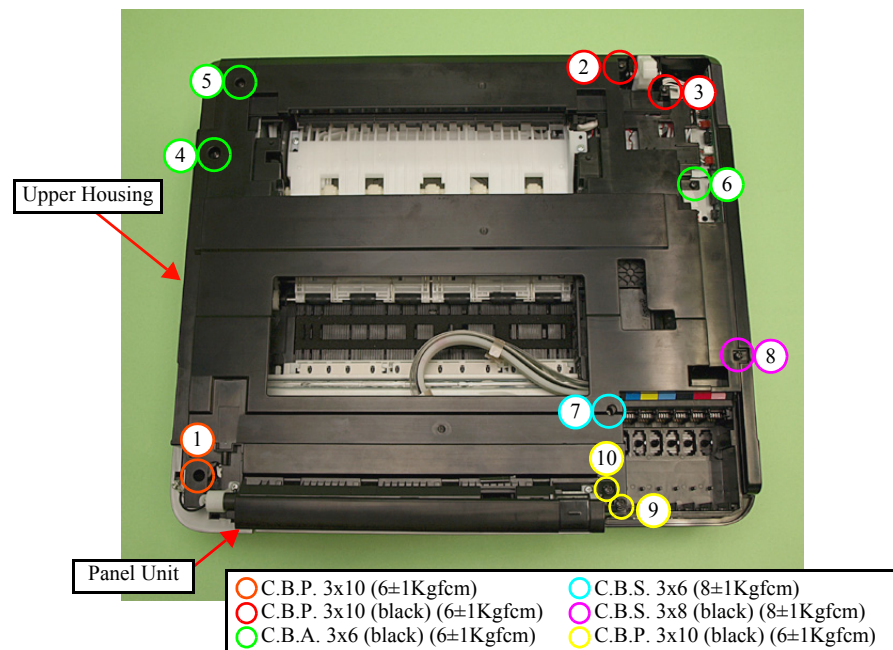

Figure 8-10. Removing the Upper Housing (3)
- Tighten the screws in the order shown in Fig. 8-10.